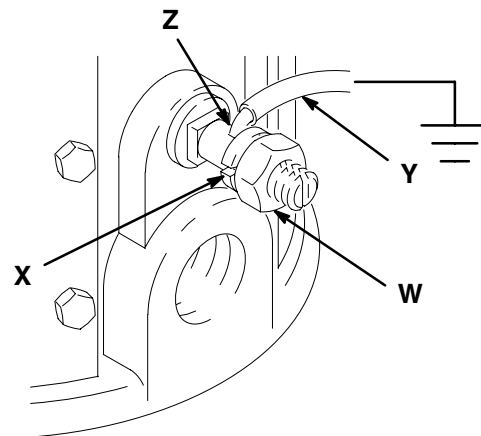

Fig. 1
1. *Pump:* use a ground wire and clamp as shown in Fig. 1.